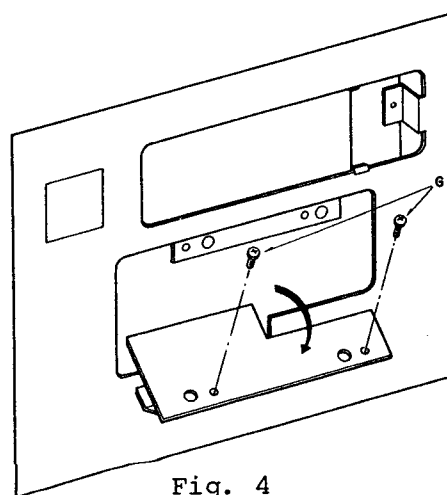

Fig. 4
- 10) When removing the LED assembly holder, take off two set screws (marked G on Fig. 4) by turning them frontward. Then, the LED in the printed circuit board can be replaced.